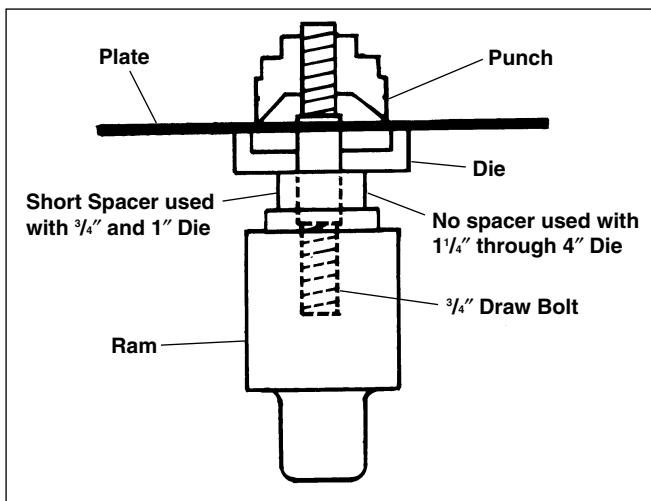

Figure 4 – Punching $\frac{3}{4}$ " Through 4" Holes
4. Pass the end of the draw bolt and the end of the bolt through the previously drilled pilot hole and thread the punch onto the end of the bolt so that the punch points just touch the material (*Figure 4*). Operate the pump as described below.